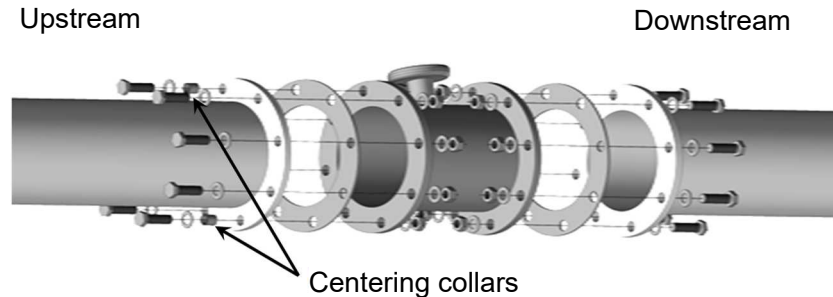

Fig. 3-3 Installation example of the centering collars
- 4) This flow meter should be installed so that the central axis of the flow meter matches the central axis of piping. In order to make the deviation of the central axes of the flow meter and piping, use the centering collars provided as an accessory. As shown in Fig. 3-3 Installation example of the centering collars, when installing the upstream side, the Attached collars should be inserted into the holes of the gasket and flange at diagonal positions.